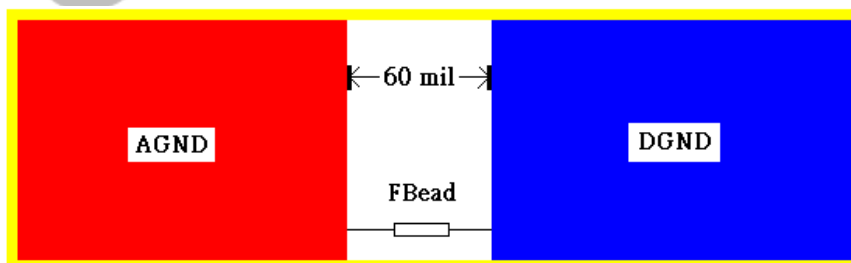

Fig.2 AGND and DGND
- Connect analog and digital power planes at one point through a low-impedance bridge or preferably through a ferrite bead as figure 2.